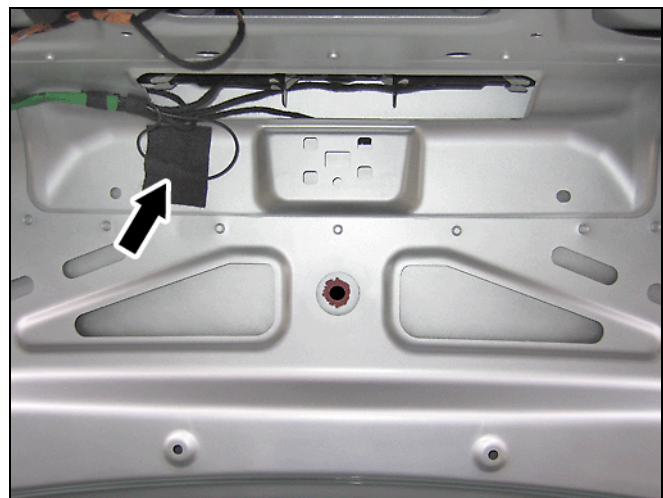

Figure 4
7. Peel back the felt tape (Figure 4) from the trunk lid underside to expose the preinstalled antenna leads.